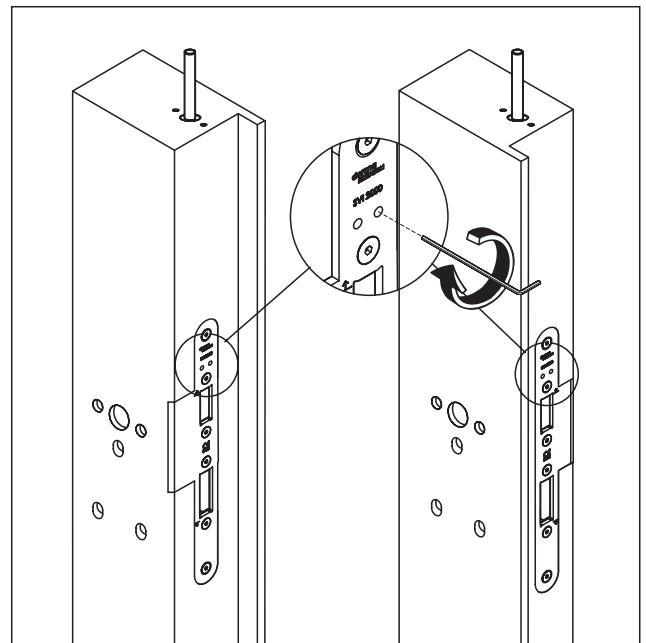

Fig. 57 Fix upper espagnolette bolt
2. Fix the upper espagnolette bolt through the drill hole in the forend with 1 Nm (Abb. 57).